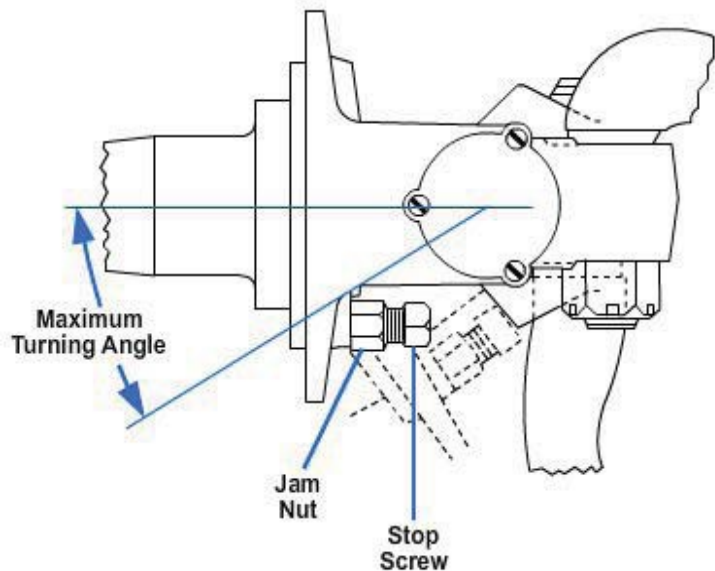

Figure 9-8 – Stop screw determines the maximum turning angle.
Turning radius or angle is the degree of movement from a straight-ahead position of the front wheels to either an extreme right or left position. Two factors limit the turning angle: tire interference with the chassis and steering gear travel. To avoid tire interference or bottoming of the steering gear, adjustable stop screws are located on the steering knuckles (*Figure 9-8*). Turning radius or angle should be checked using the radius gauge described earlier. If turning angle does not meet specifications, it should be corrected.
4. Check both front tires for clearance at full steering lock. When the specified clearance is set, back the wheel stop screw out until the screw contacts the axle stop (*Figure 9-8*), and tighten the jam nut.